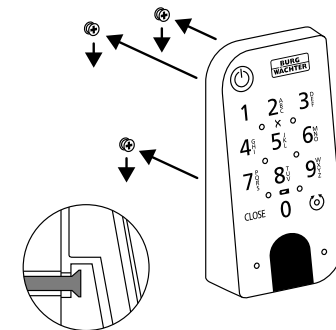

Fig. 111
- 4 Place the keypad on the screw heads as shown in the illustration (Fig. 111).